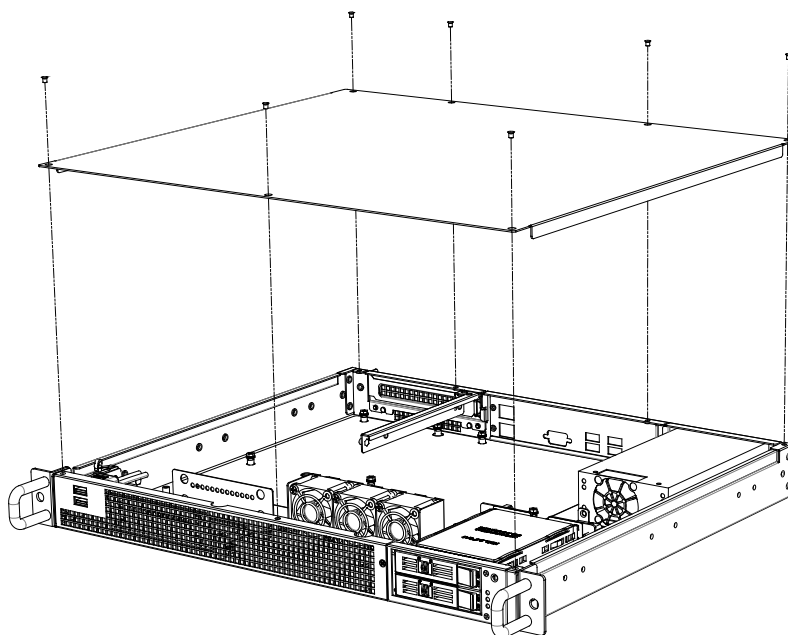

Figure 2.1 Removing the top cover/ 移除頂蓋 / 移除上蓋
1. Unscrew the seven knurled screws on the top side. (see Figure 2.1)
1. 旋开 7 个顶盖上侧的螺丝。（如图 2.1 所示）